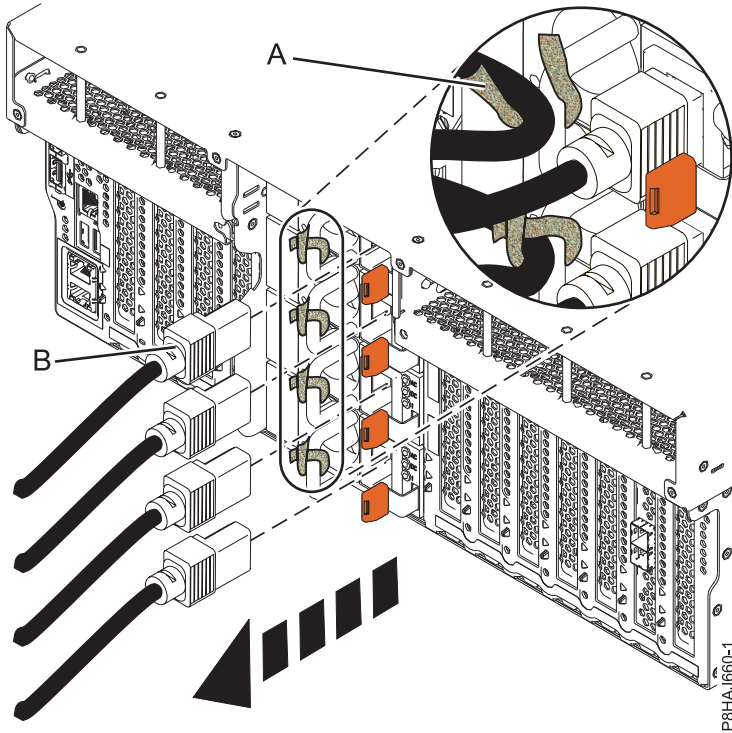
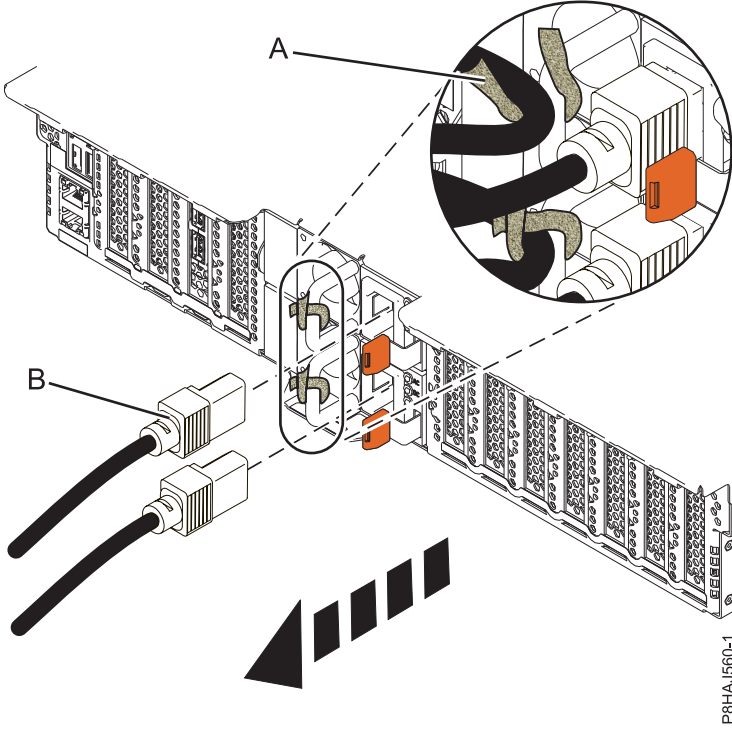
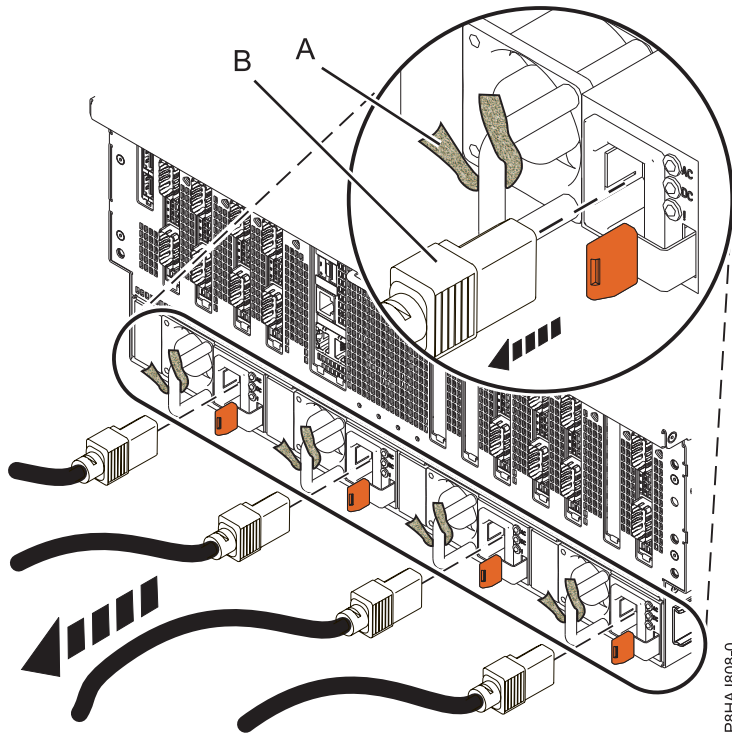

Figure 41. Removing the power cords from an 8247-42L, 8286-41A, or 8286-42A system
Figure 42. Removing the power cords from an 5148-21L, 5148-22L, 8247-21L, 8247-22L, 8284-21A, or 8284-22A system
Figure 43. Removing the power cords from an 8408-44E or 8408-E8E system
3. Disconnect the power cords (B) from the system unit. See Figure 41 on page 54, Figure 42 on page 54, or Figure 43 on page 55 or depending on the type of your system.